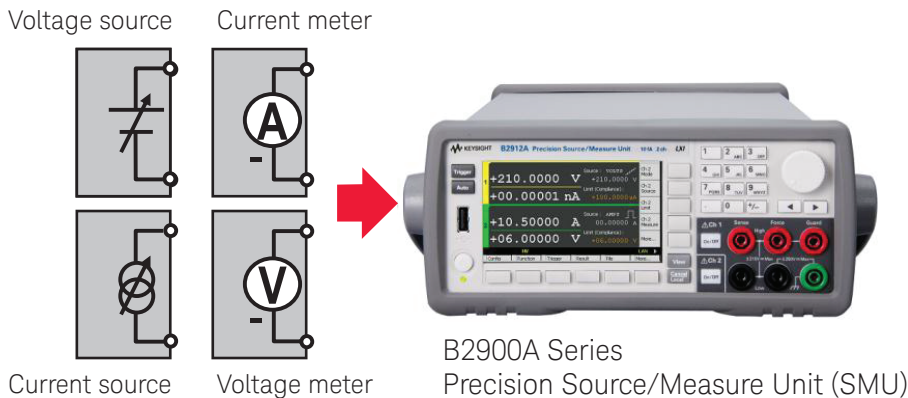

Figure 3. SMU combines four measurement functions into a single instrument
Keysight also offers Keysight B2900A precision source/measure units (SMUs) providing a versatile resistance measurement solution which covers currents from 10 fA to 3 A (DC)/10.5 A (pulse) and voltages from 100 nV to 210 V. The SMU combines the capabilities of the current source, voltage source, current meter and voltage meter along with the capability to switch easily between these various functions within a single instrument (see Figure 3).